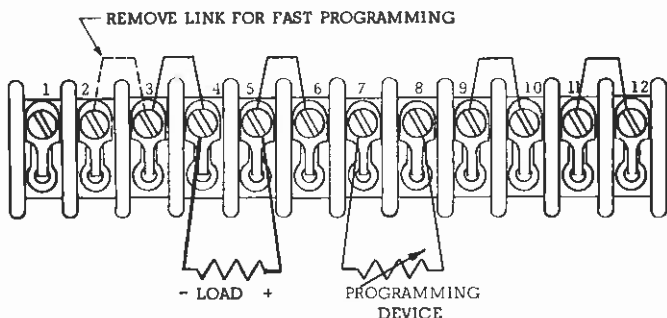

Figure 3-5. Current-Mode Programming
- c. If fast programming is desired, remove link between terminals 2 and 3 (Figure 3-5).